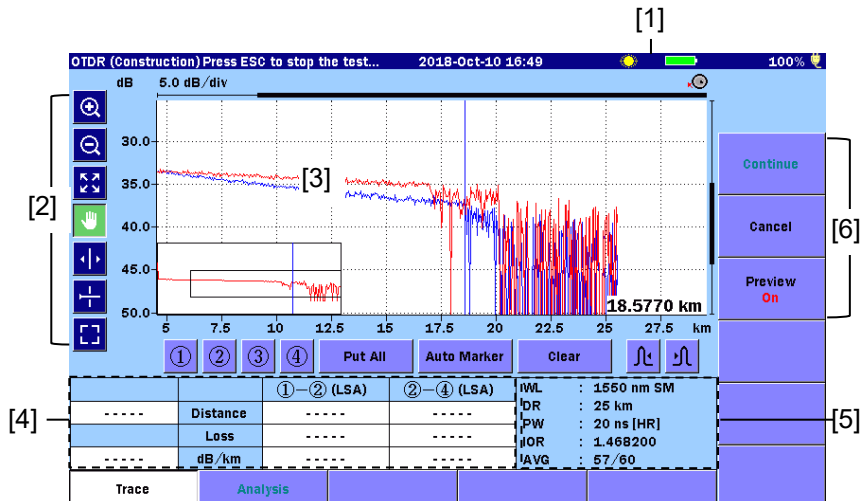

Figure 6.5-2 Test In Progress Screen
When Preview is set to On on the Test In Progress screen (Figure 6.5-2), the results of OTDR (Construction) measurement are displayed.
- When Connection Check is Off, the Test In Progress Screen is displayed (Figure 6.5-2).